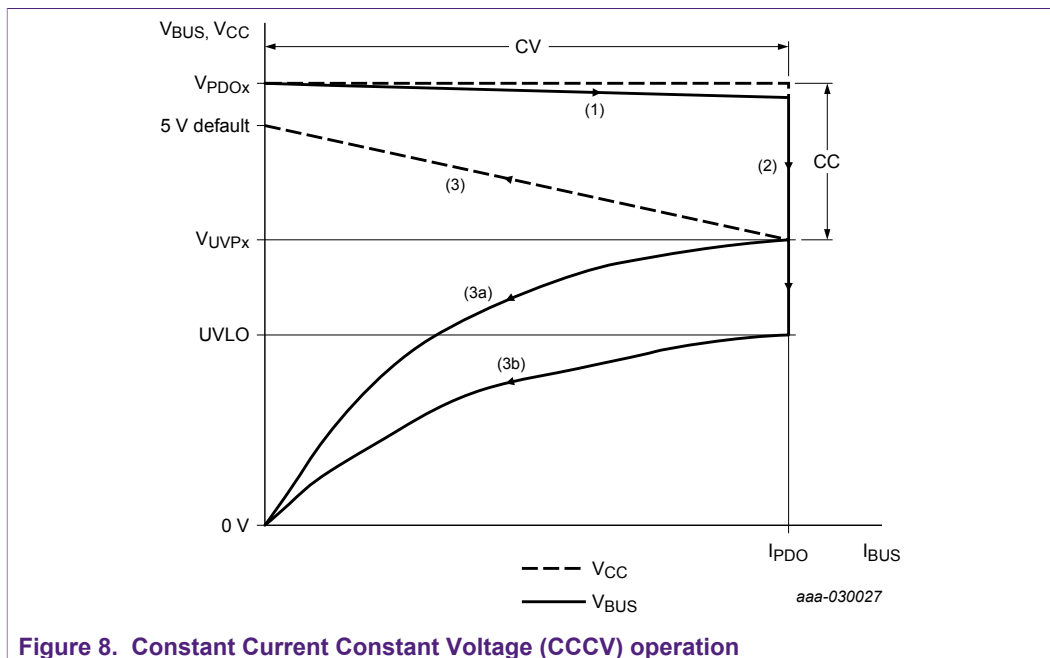

Figure 8. Constant Current Constant Voltage (CCCV) operation
Constant Current Constant Voltage (CCCV) operation refers to a control methodology with a behavior shown in Figure 8. In region (1), the output voltage (V_{CC}) is regulated to the selected PDO constant voltage level as long as current I_{BUS} drawn by the consumer remains below the selected maximum PDO current (I_{PDO}).